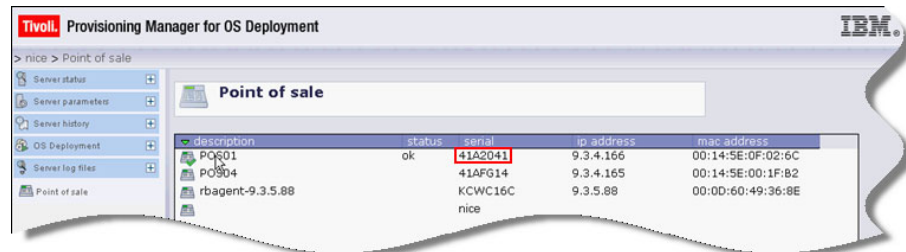

Figure 5-36 Verifying the hardware switch from the POS overview
7. Click **Finish** to exit the wizard. You will note that in the point of sale list, the machine with serial number: **41A2041**, is now known to Tivoli Provisioning Manager for OS Deployment as “POS01”, while the original POS01, with serial number **41W8197**, is no longer listed (Figure 5-36).